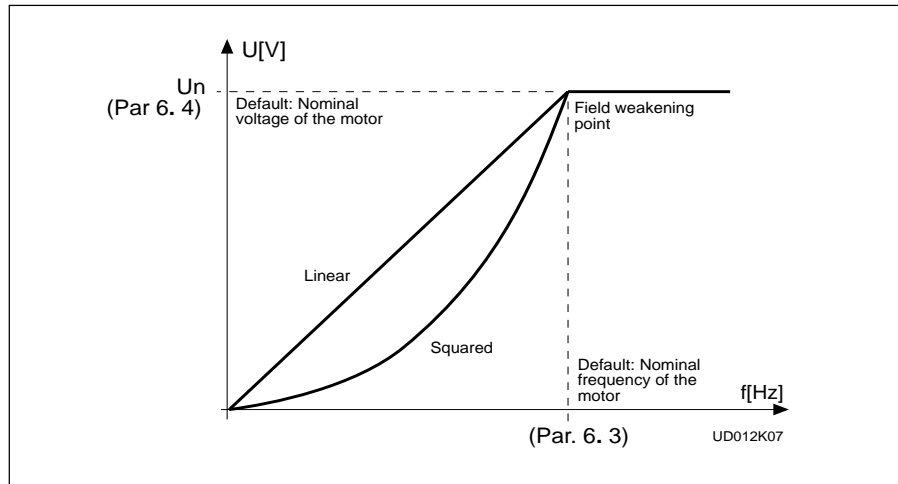

Figure 5.4.-2 Linear and squared U/f curves.
Linear: The voltage of the motor changes linearly with the frequency in the constant flux area from 0 Hz to the field weakening point (par. 6. 3) where the nominal voltage is also supplied to the motor. See figure 5.4.-2. Linear U/f ratio should be used in constant torque applications.
**Squared:** The voltage of the motor changes following a squared curve form with the frequency in the area from 0 Hz to the field weakening point (par. 6. 3) where the nominal voltage is also supplied to the motor. See figure 5.4.-2.
**Programm. U/f curve** The U/f curve can be programmed with three different points. The parameters for programming are explained in Chapter 5.5.2. Programmable U/f curve can be used if the other settings do not satisfy the needs of the application. See figure 5.4.-3.